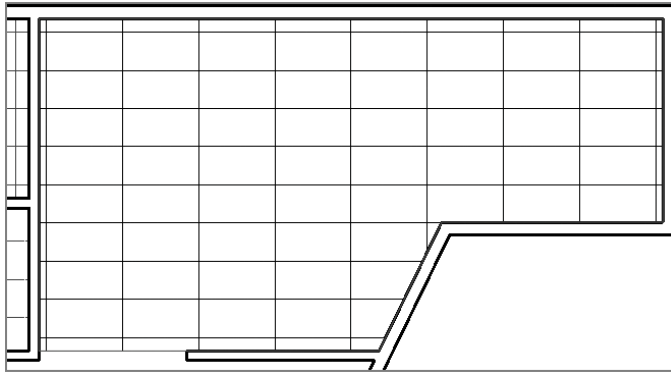

FIGURE 3.31 A 2' × 4' (600 mm × 1200 mm) ceiling
6. Create another ceiling using Sketch Ceiling in the upper-right area of the plan (Figure 3.31). Choose the 2' × 4' (600 mm × 1200 mm) system from the Type Selector before you finish the sketch of the ceiling.